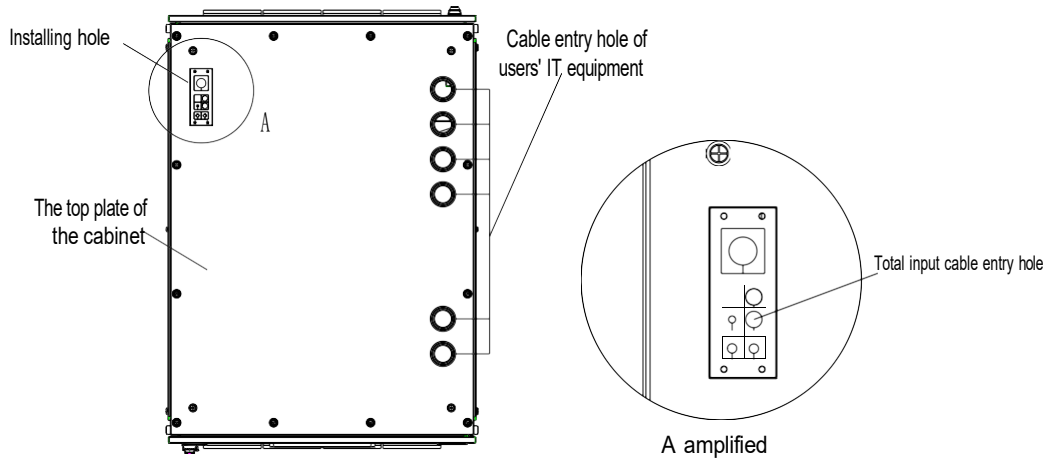

Figure 2-33 An external input through the cable line hole
5. The total input wire then passes through the wire mounting holes on the top plate, as shown in Figure 2-33. The cable routing holes are described in the *Connecting the Copper pipes* section.